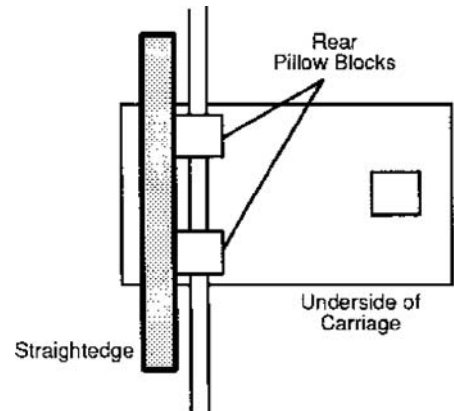

FIG. 36
9. Insert a rail through the rear two pillow blocks, and align the rear pillow blocks to each other with a straight edge laid along their sides. See FIG. 36. When aligned, tighten the four socket-head screws which hold each rear pillow block. Slide the other carriage shaft through the front bearing, but do not tighten the socket head screws.